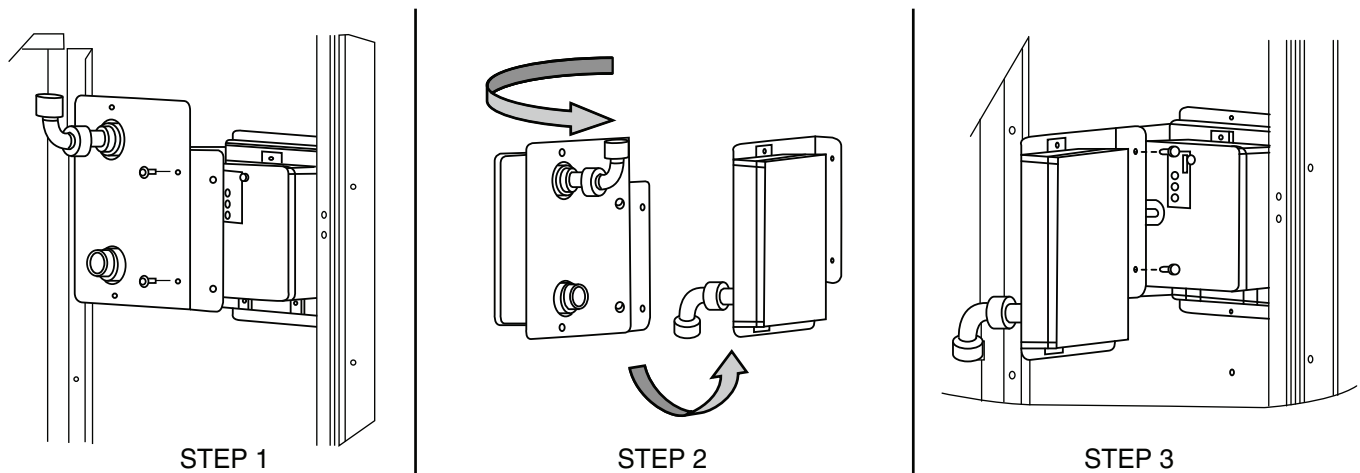

Fig. 67 — Completing Installation of Return Air Smoke Sensor
1. Unscrew the two screws holding the Return Air Smoke Detector assembly. See Fig. 67, Step 1.
3. Turn the assembly 90 degrees and then rotate end to end. Make sure that the elbow fitting is pointing down. See Fig. 67, Step 2.
4. Screw the sensor and detector plate into its operating position using screws from Step 1. See Fig. 67, Step 3.